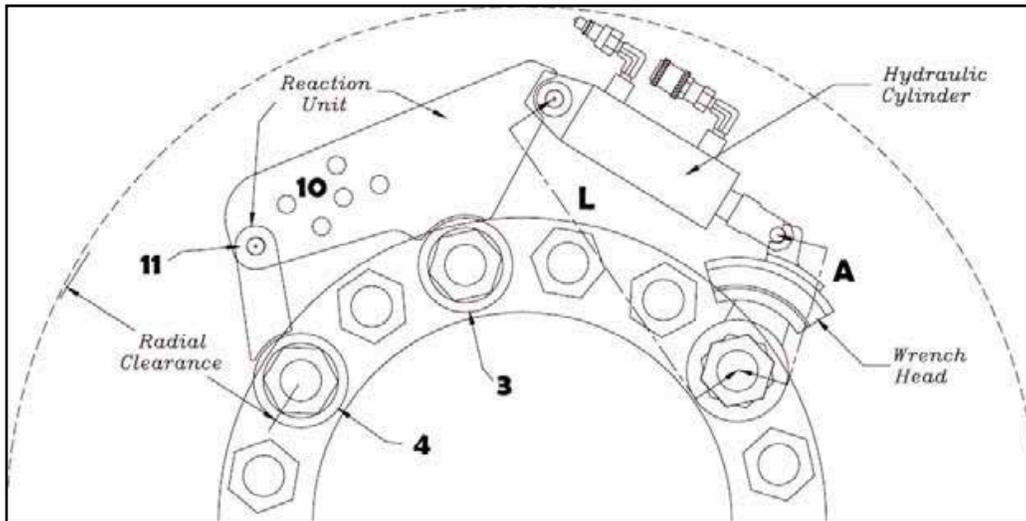

Figure 7
6. When the wrench and reaction unit are properly placed on the flange, the distance (L) from the center of the pin in the back clevis of the cylinder to the center of the bolt being turned should always be 13-7/8" on a Series 200-6.
7. Place the wrench head (1) on any bolt on the flange.
8. Place the ring of the reaction plate (3) around the bolt which would satisfy the following criteria:
- a. The distance (L) should be correct.
- b. The wrench head (1) should be able to rotate 60° without interfering with an adjacent bolt.
9. Place the ring on the reaction plate (3) around the bolt which would result in the proper set-up.
10. Place the ring of the reaction leg (4) around the bolt which would allow the hole (11) on the leg to align with any hole (10) on the plate. Insert the bolt (5) through the two holes and tighten the nut (6). See Figure 7.